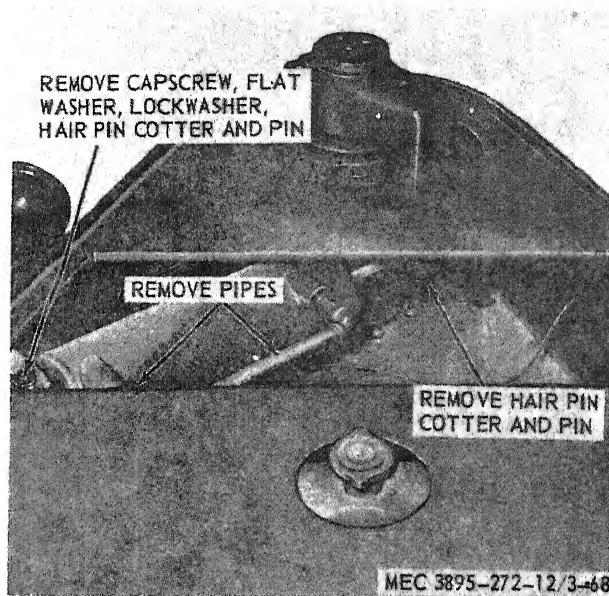

Figure 3-68. Steering cylinder, removal and installation.
- a. *Removal.* Remove the steering cylinder as instructed on figure 3-68.
- (1) Clean all parts with an approved cleaning solvent.
- (2) Inspect all parts for wear, defects, and damage. Replace worn, defective, or damaged parts.
c. *Installation.* Install the steering cylinder in reverse of the instructions on figure 3-68.